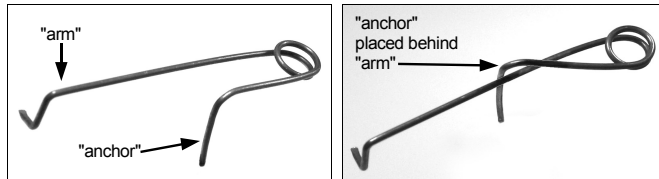

Fig. 2e: Pre-load the spring (LH shown) before installing.
- 2e. Pre-load the spring by placing the "anchor" end over the "arm". See Fig. 2e below.